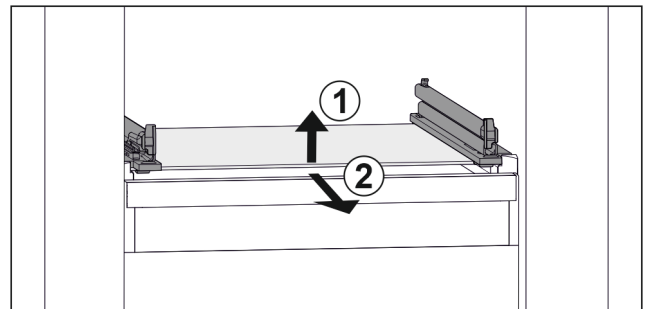

Fig. 38 Example illustration of glass shelf
- ▶ Lift glass shelf at the front. Fig. 38 (1)
- ▶ Remove glass shelf to the front. Fig. 38 (2)